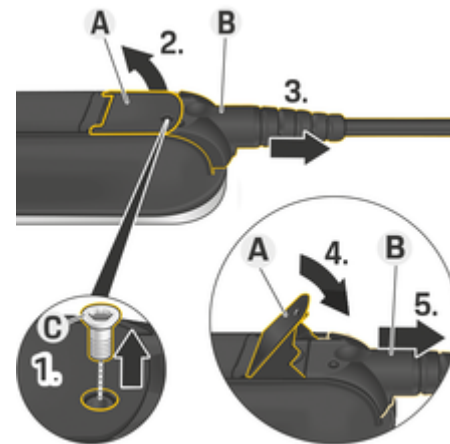

Fig. 8 Disconnecting cables
1. Remove screw **C** (Fig. 8) using a suitable tool.
2. Lift the lever **A** (Fig. 8).
3. Pull out the plug **B** (Fig. 8) until resistance is first felt.